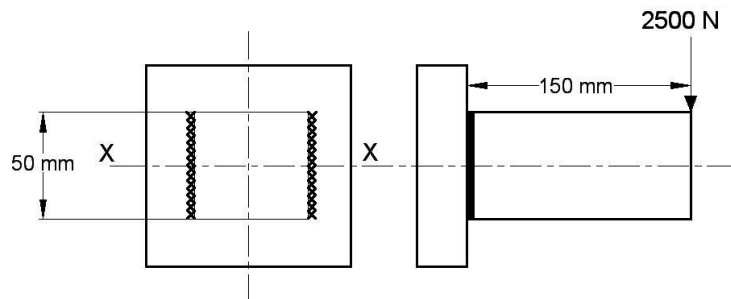

Fig. 5
- (b) A welded joint, as shown in **Fig. 5**, is subjected to an eccentric load of 2500 N. Find the size of the weld, if the maximum shear stress in the weld is not to exceed 50 N/mm^2 . **06**